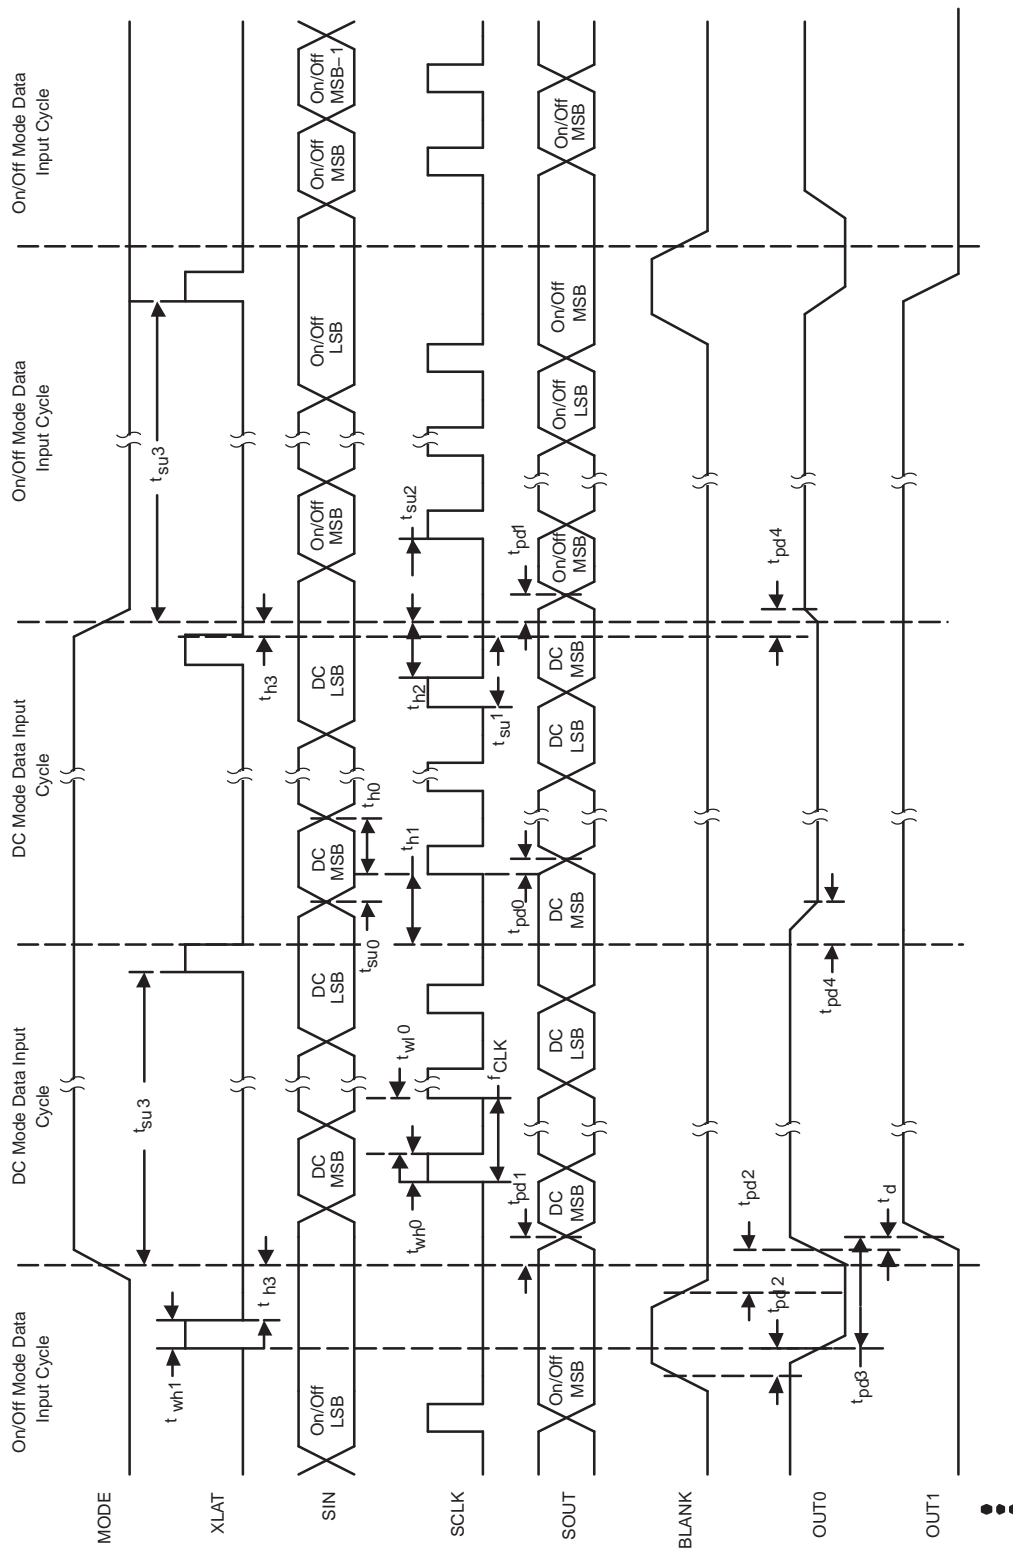

Figure 10. Timing Chart Example for ON/OFF Setting to Dot-Correction
- (4) See Figure 5 and Figure 10
- (5) See Figure 5 and Figure 10
MODE must be set to high to input data into the dot-correction register. The internal input shift register is then set to 112-bit width. After all serial data is clocked in, a rising edge of XLAT latches the data to the dot-correction register (Figure 10).
MODE must be set to low to input On/Off data into the On/Off register. The internal input shift register is then set to 16-bit width. After all serial data is clocked in, a rising edge of XLAT, during BLANK = high, is used to latch data into the On/Off register. Figure 10 shows the On/Off data input timing chart.